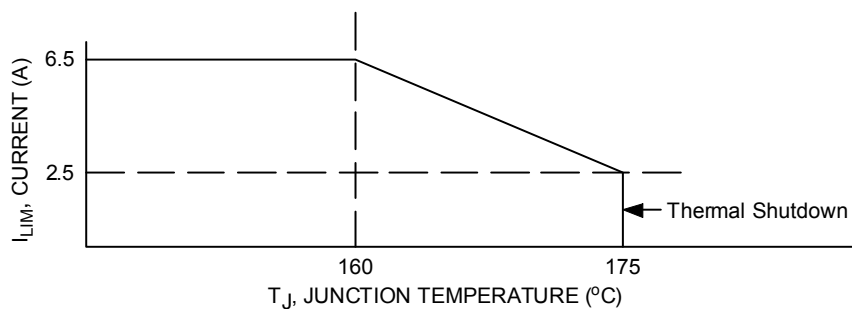
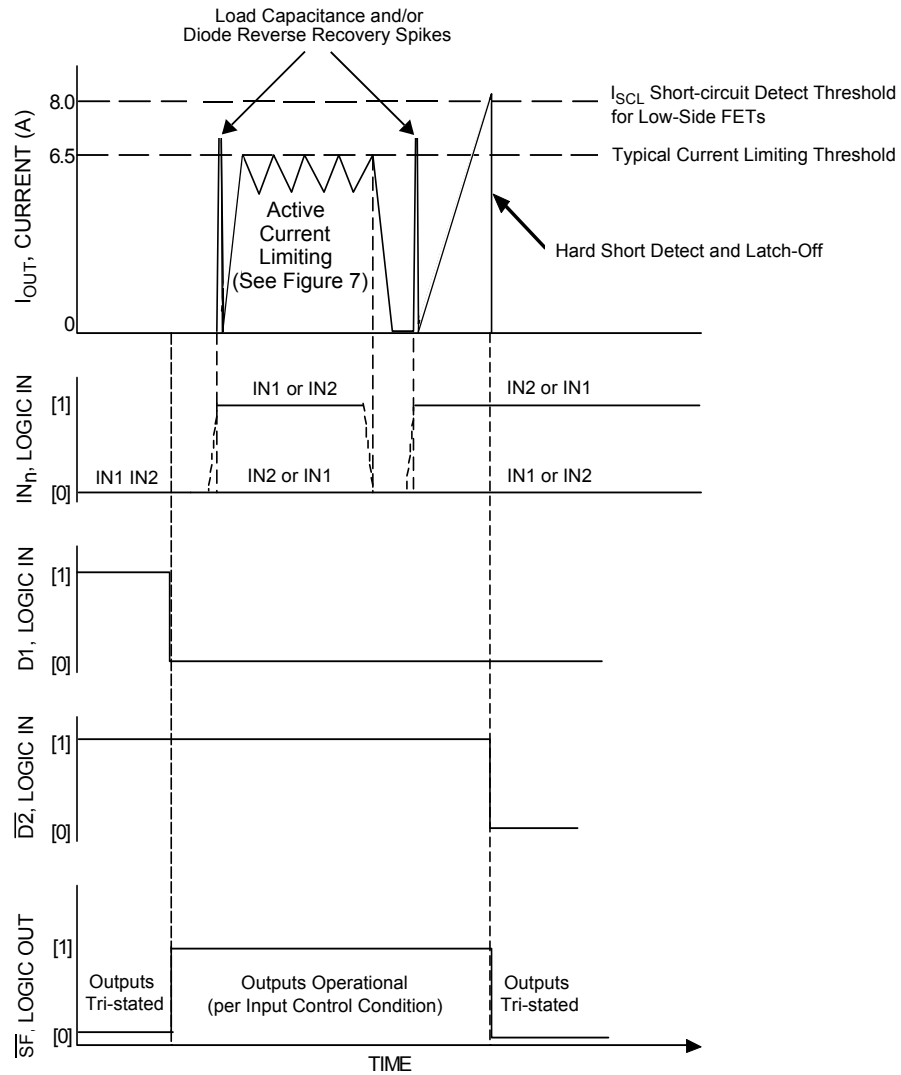

Figure 7. Active Current Limiting Versus Temperature (Typical)
Figure 8. Active Current Limiting Versus Time
26. Increasing currents will become limited at  $I_{\text{LIM}}$ . Hard shorts will breach the  $I_{\text{SCH}}$  or  $I_{\text{SCL}}$  limit, forcing the output into an immediate tri-state latch-OFF. See Figures 8 and 9, page 10. Active current limiting will cause junction temperatures to rise. A junction temperature above  $160^\circ\text{C}$  will cause the active current limiting to progressively “fold-back” (or decrease) to 2.5 A typical at  $175^\circ\text{C}$  where thermal latch-OFF will occur. See Figure 7, page 9.
The current limiting threshold value is dependent upon the device junction temperature. When  $-40\text{ }^{\circ}\text{C} < T_J < 160\text{ }^{\circ}\text{C}$ ,  $I_{LIM}$  is between 5.2 A and 7.8 A. When  $T_J$  exceeds  $160\text{ }^{\circ}\text{C}$ , the  $I_{LIM}$  current decreases linearly down to 2.5 A typical at  $175\text{ }^{\circ}\text{C}$ . Above  $175\text{ }^{\circ}\text{C}$  the device overtemperature circuit detects  $T_{LIM}$  and overtemperature shutdown occurs (see Figure 7, page 9). This feature allows the device to remain